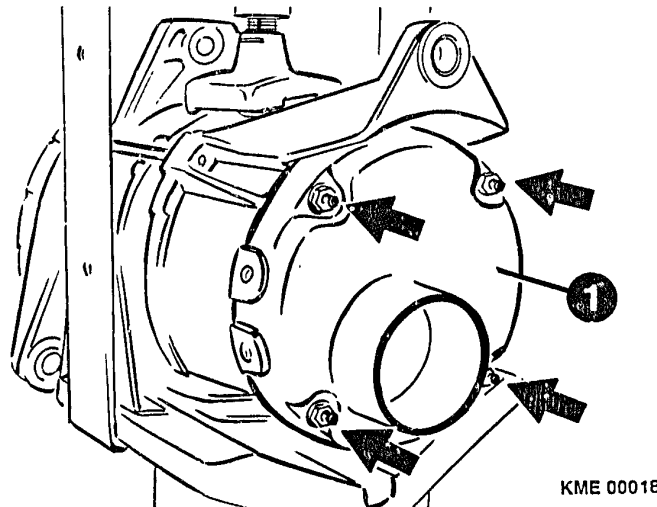

Figure 5 Air Intake Cover Removal (1)
2. Remove four nuts holding on the air intake cover. (Figure 5)